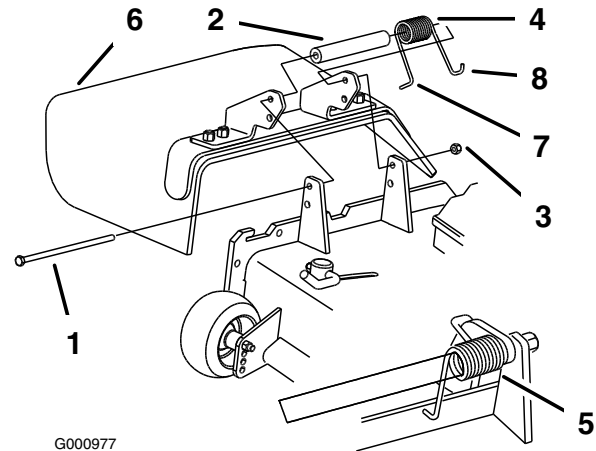

Figure 81
Note: Make sure the L end of the spring is installed behind the deck edge before installing the bolt as shown in Figure 81.
3. Install the bolt and nut. Place the J hook end of the spring around the grass deflector (Figure 81).
1. Remove the locknut, bolt, spring and spacer holding the deflector to the pivot brackets (Figure 81). Remove the damaged or worn grass deflector.